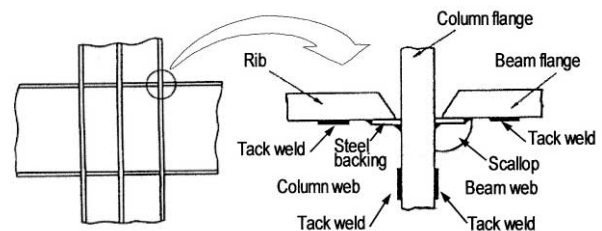

Fig. 1 Recommended tack weld locations for a column-to-beam connection joint
- (2) According to the JASS 6 specification, do not tack welding when the ambient temperature at a welding area is lower than -5°C . When it is in between -5°C and 5°C , preheat the base metal at an appropriate temperature for a distance up to 100 mm from the welding joint.
- (3) In tacking high tensile strength steel and heat-resistant low-alloy steel, a short tack weld bead causes faster cooling rates of the weld and thereby increases the hardness of the heat-affected zone of the base metal, which may cause cracking of the tack weld. In order to prevent this trouble, preheating temperature should be 40-50 $^{\circ}\text{C}$ higher than in the final welding.
- (4) Use low hydrogen electrodes for tacking thick components of mild steel, high tensile strength steel and heat-resistant low-alloy steel to prevent cold cracking of tack welds.
- (5) Avoid tack welding on sharp corners of the components where residual stress is apt to concentrate. **Figure 1** shows typical recommended locations for tack welds on a steel structure as per the Technical Recommendations for Steel Construction for Buildings.